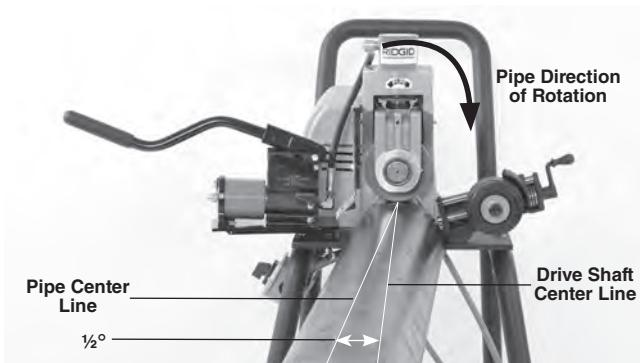

Figure 12 – Offsetting the Pipe $1/2^{\circ}$, (Exaggerated)
roll rotates in a clockwise direction matching the pipe rotation decal on the groover. See *Figure 12*. Have the machine serviced if it rotates in the wrong direction or if the foot switch does not control its stopping or starting.
7. Slightly offset the pipe and pipe stands approximately ½ degree (about 1" over at 10 feet from the roll groover) towards the operator. Proper alignment of the pipe and roll groover helps to ensure proper tracking of the pipe while grooving (See *Figure 12*). This is proper offset for grooving and works with the stabilizer.
- Slightly increase the offset of the pipe (increase from $\frac{1}{2}$ degree to 1 degree) See *Figure 12*.